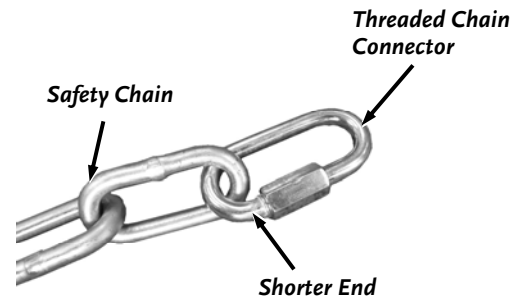

Figure 13
1. Attach a Threaded Chain Connector to the end of each safety Chain and tighten with a 10mm Wrench (**Figure 13**).
**Note:** In order to attach the Chains in Step 3, position the Chain Connector so that the shorter end is on the side connected to the Safety Chains (**Figure 13**).